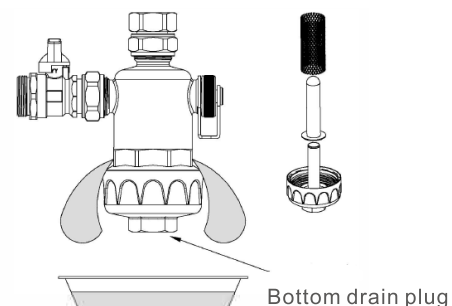

Figure 2
4. If the valve is installed vertically (Figure 2), unscrew bonnet using adjustable wrench. If opening is difficult, loosen the plug cap slightly and wait until the pressure inside the strainer decreases before unscrewing the valve cover.